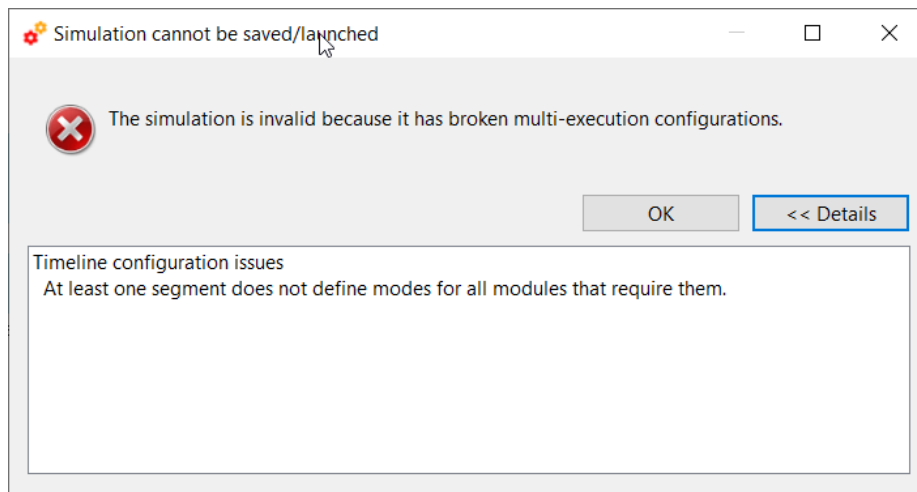

Figure 4-122: Execution prevented due to configuration issues
- If any parameter has been added or deleted from the configuration files of any active module involved in the simulation, the execution will not be carried out, and a dialog will be displayed listing the configuration issues as shown in Figure 4-122. See section 4.4.2.6 for details.